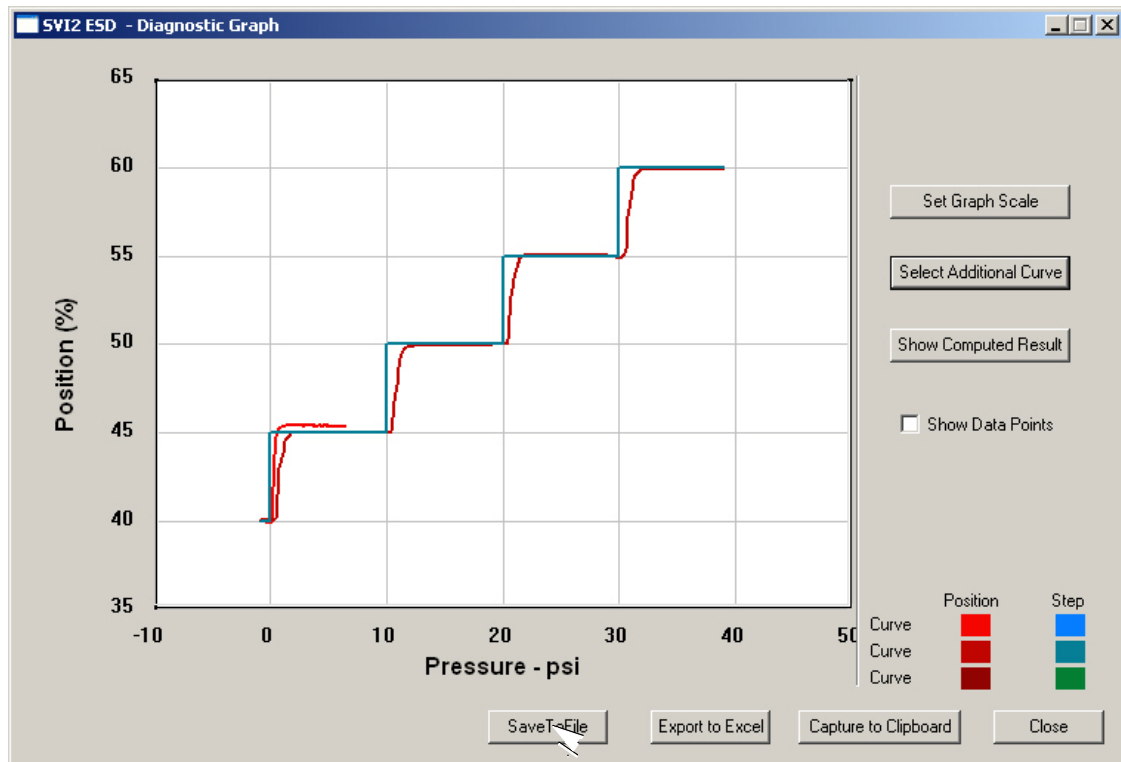

Figure 155 - Selecting Save to File
1. Select **Save To File** (*Figure 155*).